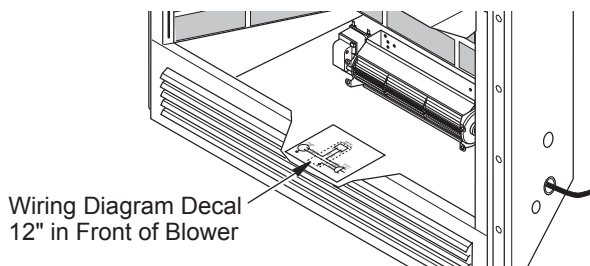

Figure 27 - Location of Wiring Diagram Decal (Model May Vary From Illustration)
10. Peel off the backing paper and stick the supplied wiring diagram decal on the firebox bottom approximately 12" in front of the blower (see Figure 27).
11. Peel off the backing paper and stick the supplied wiring diagram decal on the firebox bottom approximately 12" in front of the blower (see Figure 27, page 16).